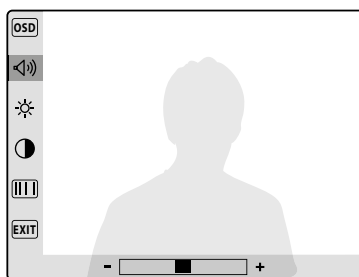

Fig. 17
- To enter into programming menu press the button (**Fig. 17**).
- The speech volume (8 levels, **Fig. 17**);